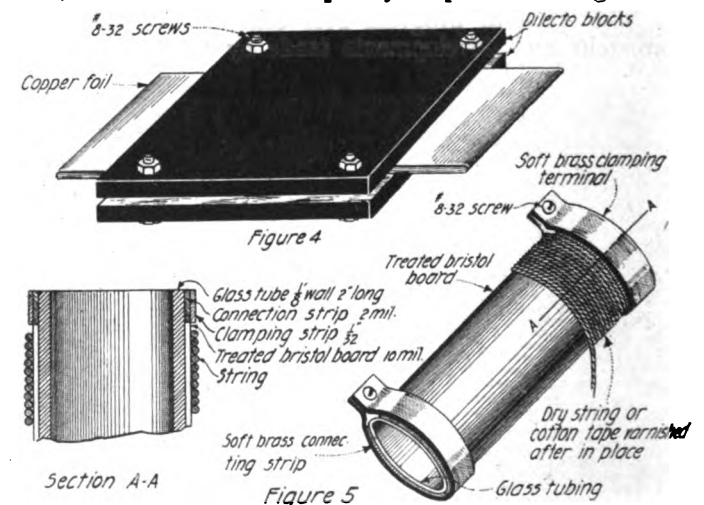
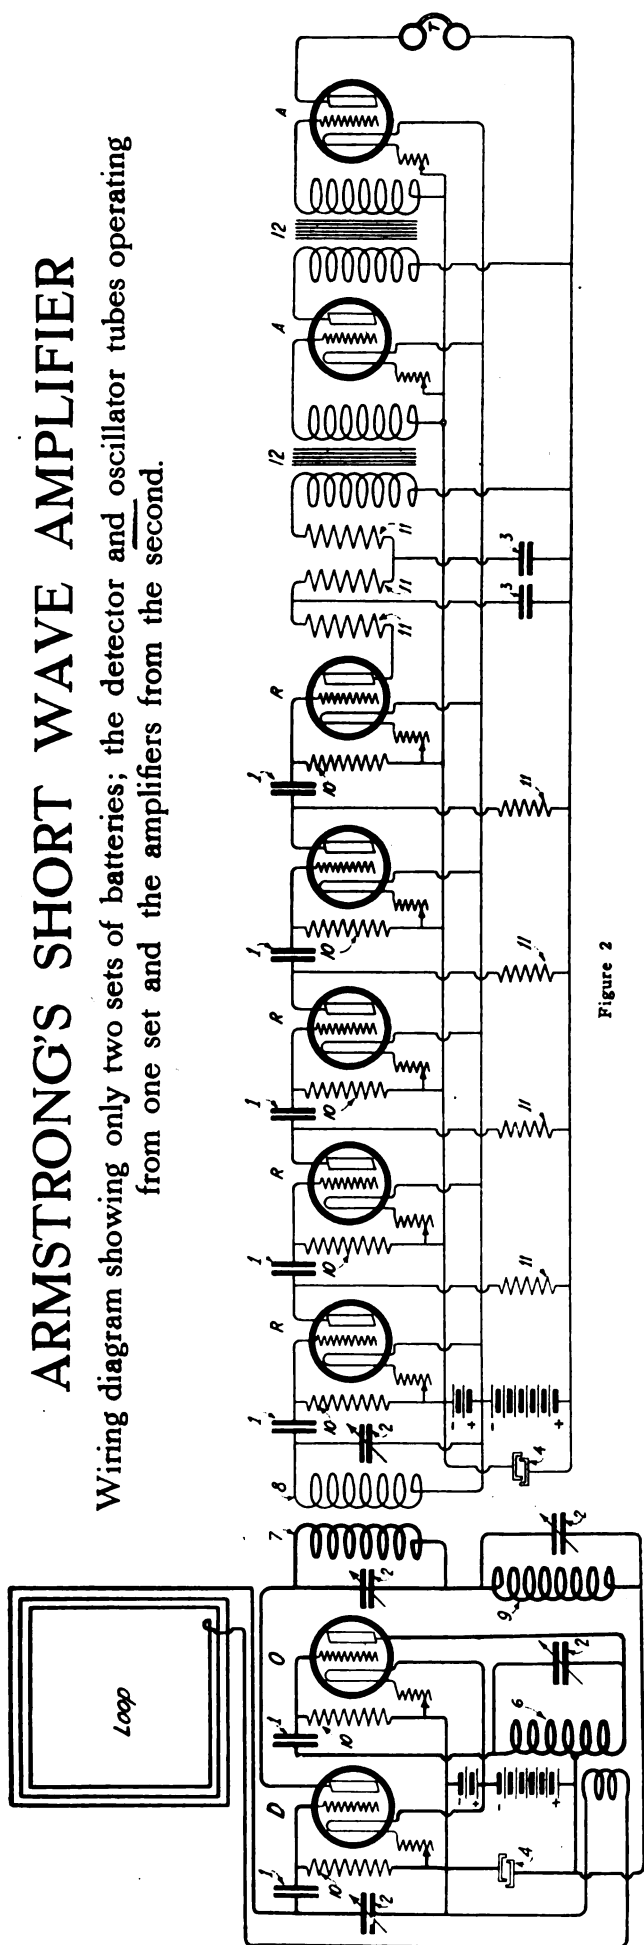

Figure 4—Grid condensers. Figure 5—Construction and assembly of the grid leak
Figure 2
Figure 2 shows a schematic circuit diagram where only two sets of batteries are required for the whole system, the detector and oscillator tubes working from one set and the amplifiers from a second. As in figure 1, D, O, R, and A represent respectively the detector, the oscillator, the radio and audio-frequency amplifier tubes. Grid condensers (1) have a capacity of .00025 mfd. Figure 4 gives a suggestion for their construction. The use of 2-mil mica, two-foil plates 0.7 inch square will give approximately this capacity. Variable tuning condensers 2, as used by the writer, had a maximum capacity of .00075 mfd. Condensers in the filter circuit 3 are of the paraffin paper type and have a capacity of .005 mfd. By-passing condensers 4 have a capacity of 2 or 3 mfd. They are shunted around the battery and offer a low resistance path for the high frequency currents. Any resistance in the common battery will, in the case of several stages, result in self-oscillation in the amplifier.